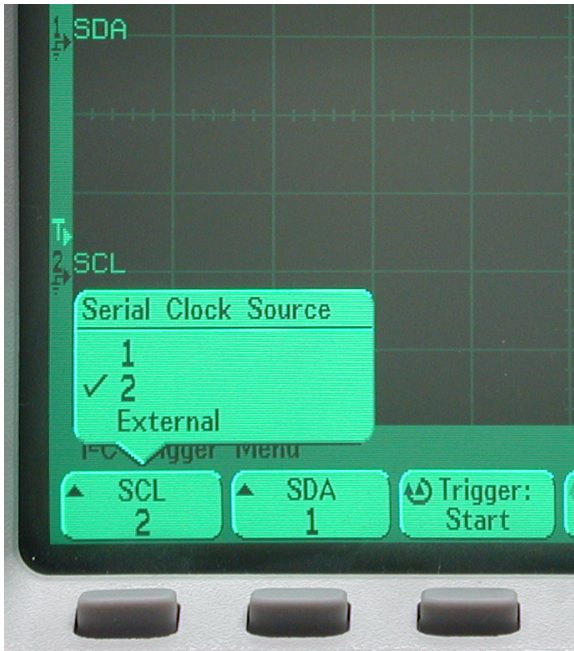

Figure 13: Agilent channel selection
13. The labels on two left most softkeys indicate which channel is assigned to the I²C clock and which is for the data (Fig. 13). If the channel assignment is opposite to how you connected the probes, press either of the two softkeys for the channel assignments. This will bring up a menu for the channel assignment and you can press that key again until the setting is correct. You don't need to change both channels manually since changing one causes the other to also change.